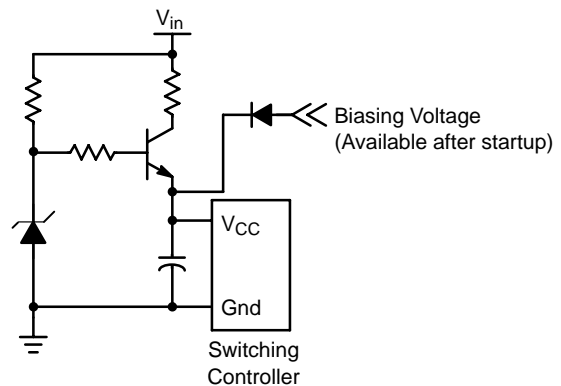
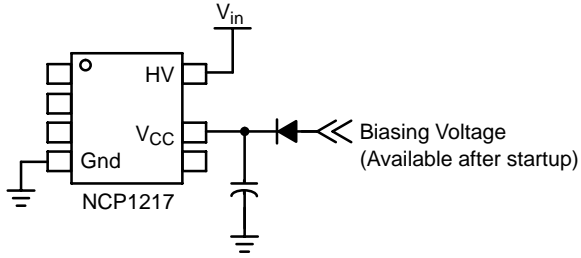

Figure 3. Disable the Resistor after Startup
Figure 4. Integrated Startup
Since the added resistor always consumes power, even an auxiliary V_{CC} supply voltage is available after startup, a modification to turn off the resistor is shown in Figure 3. The transistor conducts only at startup and will be opened later. After startup, an auxiliary V_{CC} supply is available and provides the V_{CC} biasing voltage. As long as the biasing voltage is higher than the zener reference voltage and the $V_{BE(ON)}$ of the transistor, the transistor will be off. It is noted that the operating current of the zener diode needs to be small to save the power dissipated there because it is always operating when input voltage V_{in} is applied.
Some of the controllers in ON Semiconductor offer High-Voltage (HV) startup features such as the NCP1200 series. It integrates the complex circuit in Figure 3 to Figure 4.